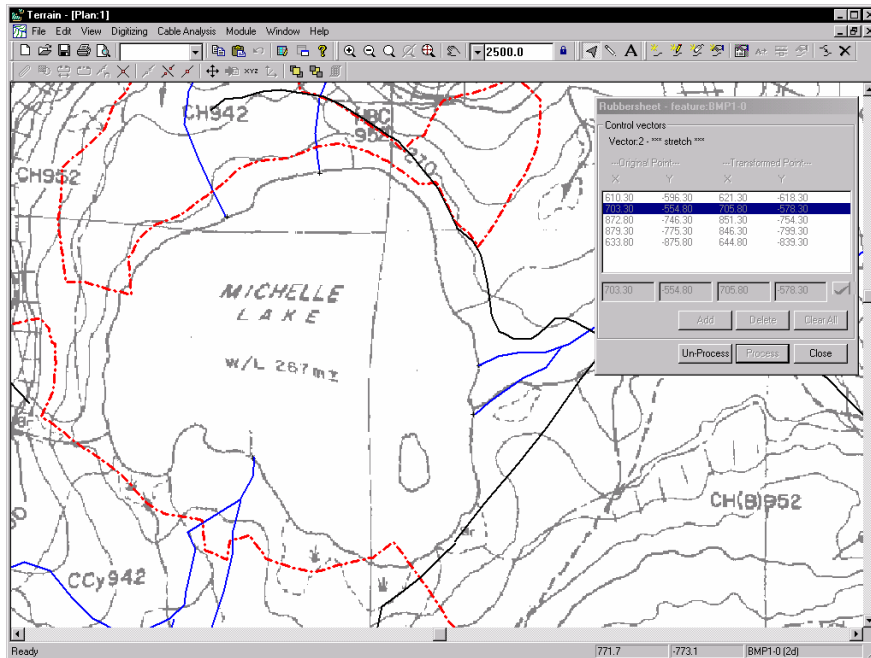

Figure 4.15: Bitmap Image after Rubbersheeting
8. Press the *Process* button. Notice that after a few seconds of processing the bitmap will be stretched to fit the new coordinate information and should appear similar to Figure 4.15.